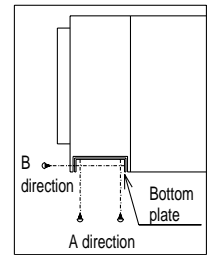

Fig.4
(1) Remove the bottom plate screws (refer to drawing below) on the filter box. (Fig. 4)